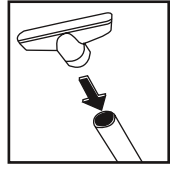

Fig. 3
3. Set the chosen device in the vacuum cleaner (Fig. 3)